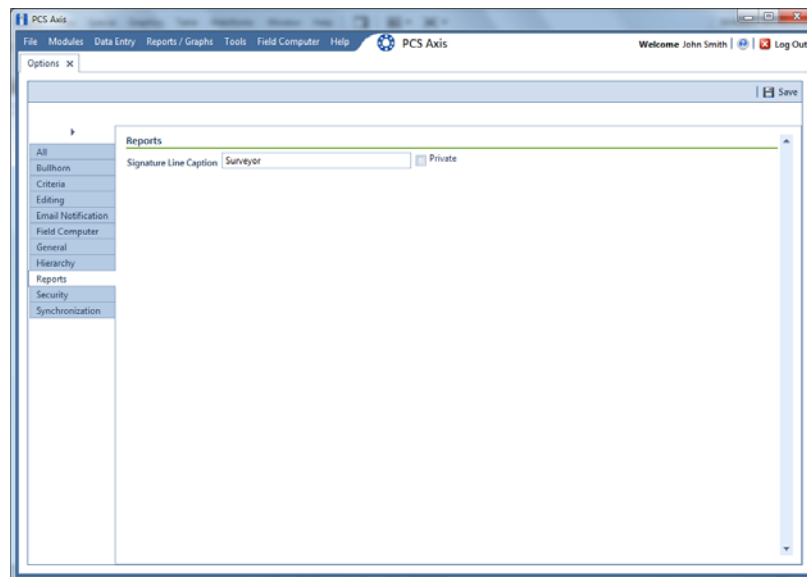

Figure 3-12. Reports
- 2 Click the **Reports** tab to open the *Reports* option page (Figure 3-12, page 50).